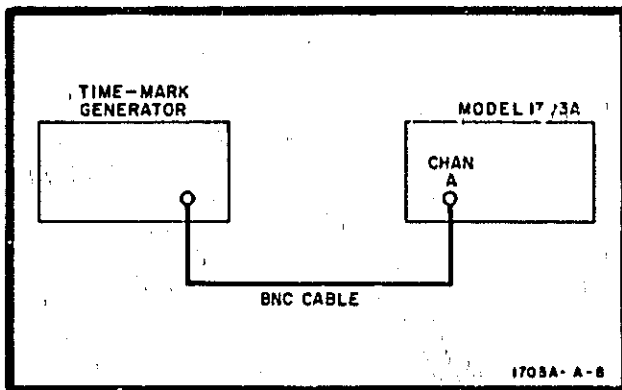

Figure 5-11. Delay Time Accuracy Test Setup
- a. Set instruments up as shown in figure 5-11.